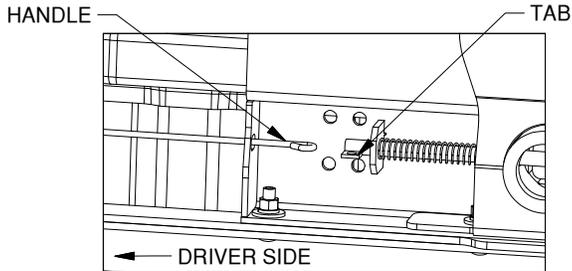

Figure H1: Looking up at center section.
- 1. Insert the handle.** Install the latch pin release handle by inserting it through the slot in the end of the center section on the driver side of the truck. Align the handle eyelet with the hole in the latch pin tab so the handle is in line with the latch, as shown in Figure H1.